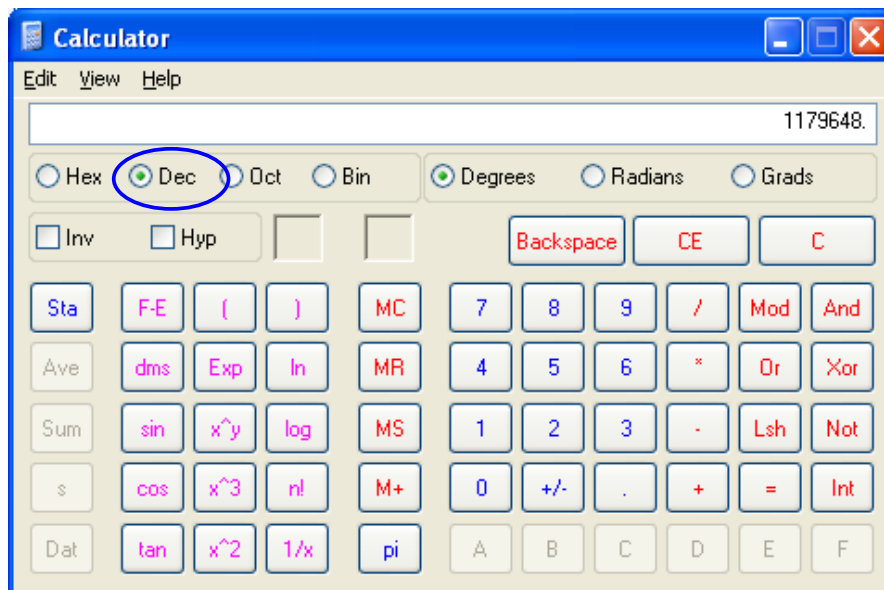

Figure 173
- Open your calculator (View Scientific) and type the number and then select Hex(See Figure 173)